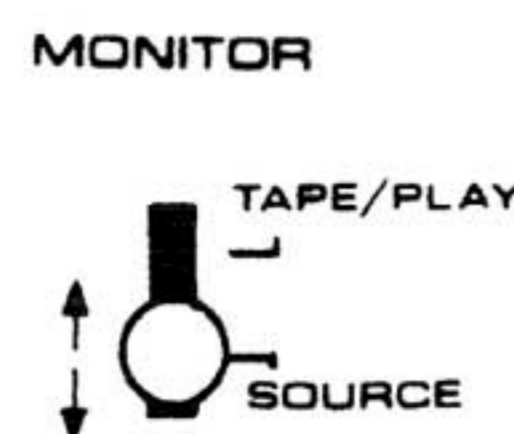

Fig. 27
9. To ascertain the quality of the recording being made, set the MONITOR switch at position TAPE/PLAY (Fig. 27). You now hear the taped sound, as picked up by the playback head, through headphones or speakers. If this check reveals poor sound quality, check the possible sources of trouble such as recording level adjustment, wrong REC BIAS or REC EQ setting, dirty tape heads, inferior tape quality, etc., and start anew.